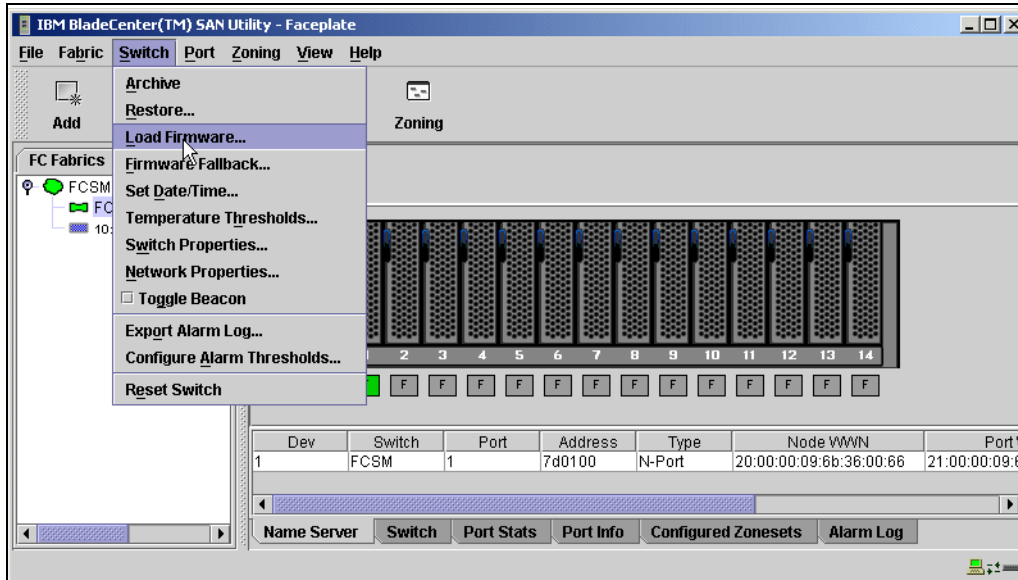

Figure 5-32 Load Firmware
2. Open the switch menu and select **Switch ->Load Firmware...** as shown in Figure 5-32.